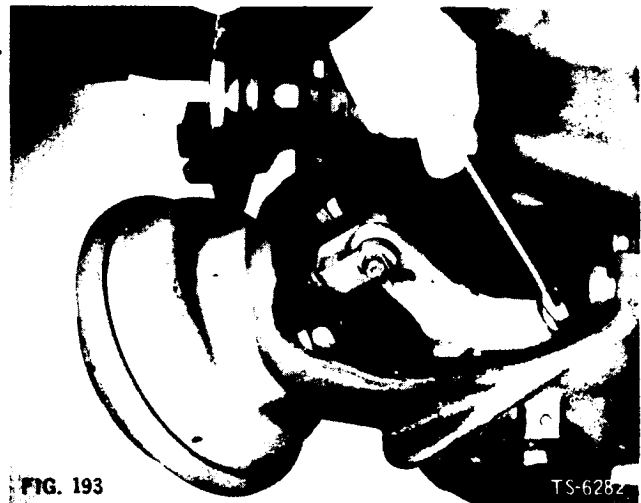

FIG. 193
NOTE: Some axle models have slack adjuster positioned so that adjusting screw is adjacent to air chamber bracket (Fig. 192). Others have slack adjuster positioned so that adjusting screw points away from air chamber bracket (Fig. 193).
6. Use 9/16-inch, open-end wrench to make adjustment. Position wrench on adjusting screw and push in until locking collar releases adjusting screw (Fig. 193).